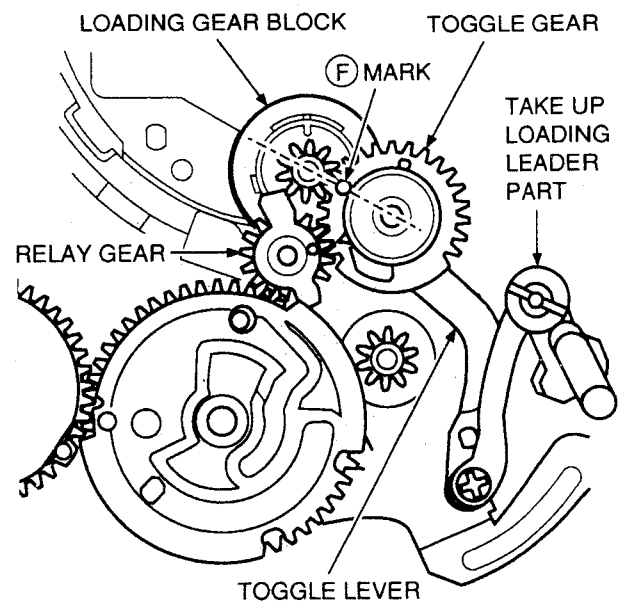

Fig. 3-33
- 2) When placing the TOGGLE GEAR BLOCK, the TOGGLE GEAR BLOCK's \oplus mark should be aligned with the LOADING GEAR BLOCK's shaft as shown in Fig. 3-33.